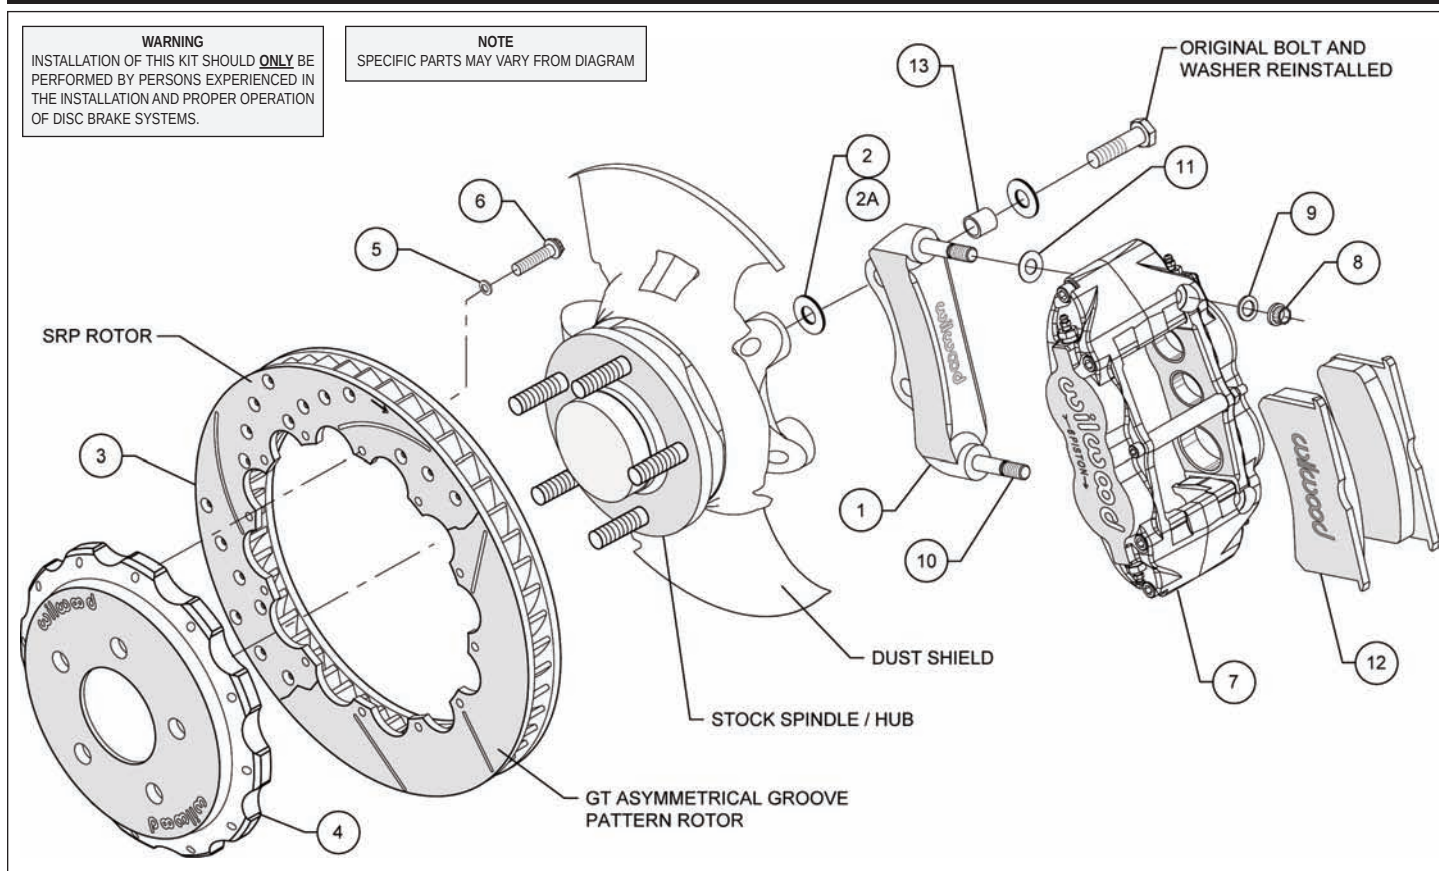

Figure 1. Typical Installation Configuration
- The caliper mounting bracket assembly (1) should be installed first with clean, dry threads on the mounting bolts. Install the bracket from the rear side of the spindle by sliding the original stock bolts through washer, sleeve (13) (sleeve only utilized on 2004 model year), and bracket (1). Place shim washer (2 or 2A for 2004 model year) between the bracket (1) and the spindle (see Figure 1). The bracket must tighten squarely against the side of the spindle body. Inspect for interference from casting irregularities, machining ridges, burrs, etc. Use one thin shim (2 or 2A) between the bracket (1) and spindle during initial trial fitting.